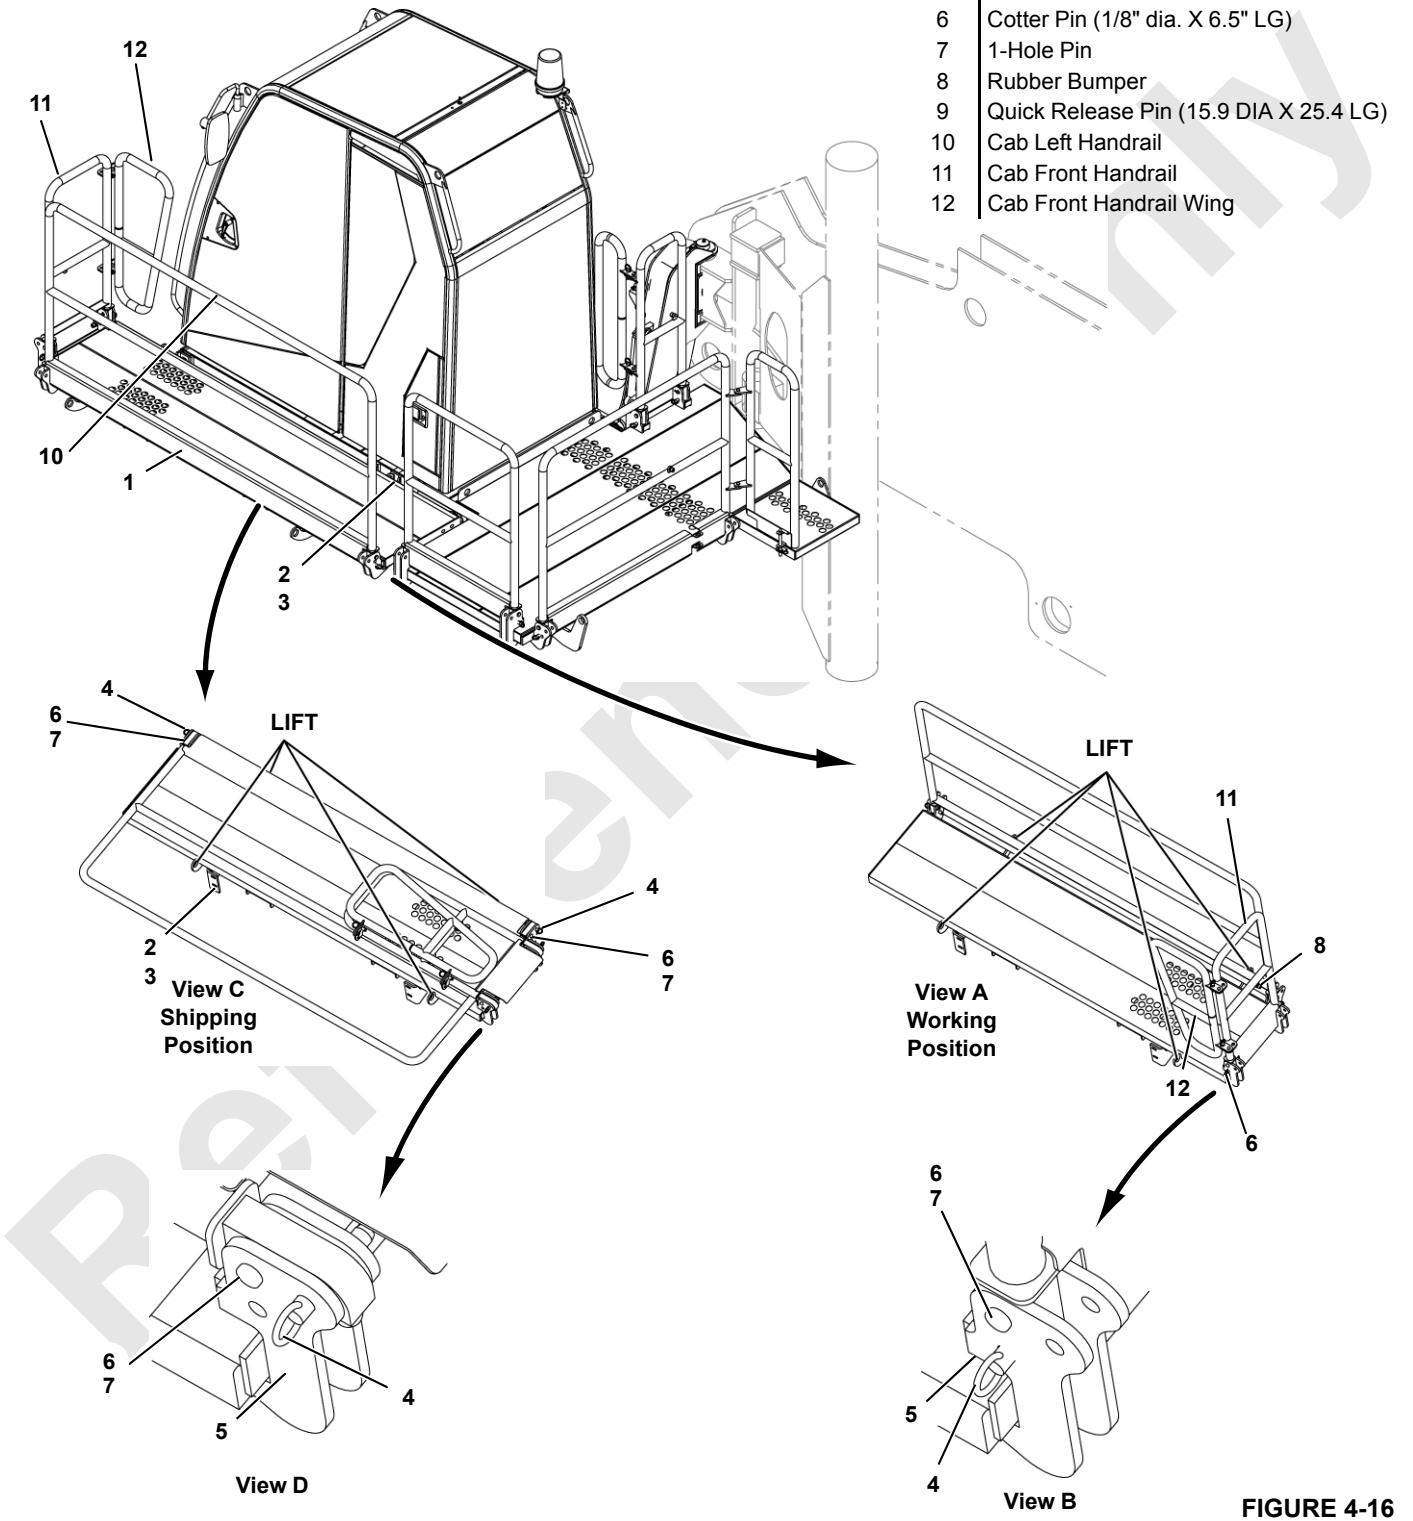

FIGURE 4-16
See Figure 4-16 for the following procedure.
FIGURE 4-16 continued
1. Remove quick release pins (10, View H) from weldments to allow movement of short rear handrail wing (14) around pins (6).
2. Rotate short rear handrail wing (14) 90° into working position (View C) and secure by inserting quick release pins into working position holes in weldments (View J).
4. Rotate rear handrail wing (17, View C) 90° about pins (9) into working position and secure by inserting round bar (11, Views G and H) into holes in weldments
5. Remove quick release pins (4, Figure 4-16, View H) from long handrail (10), rotate to **working** position and secure by inserting quick release pins (4) into working position holes in weldment (5).